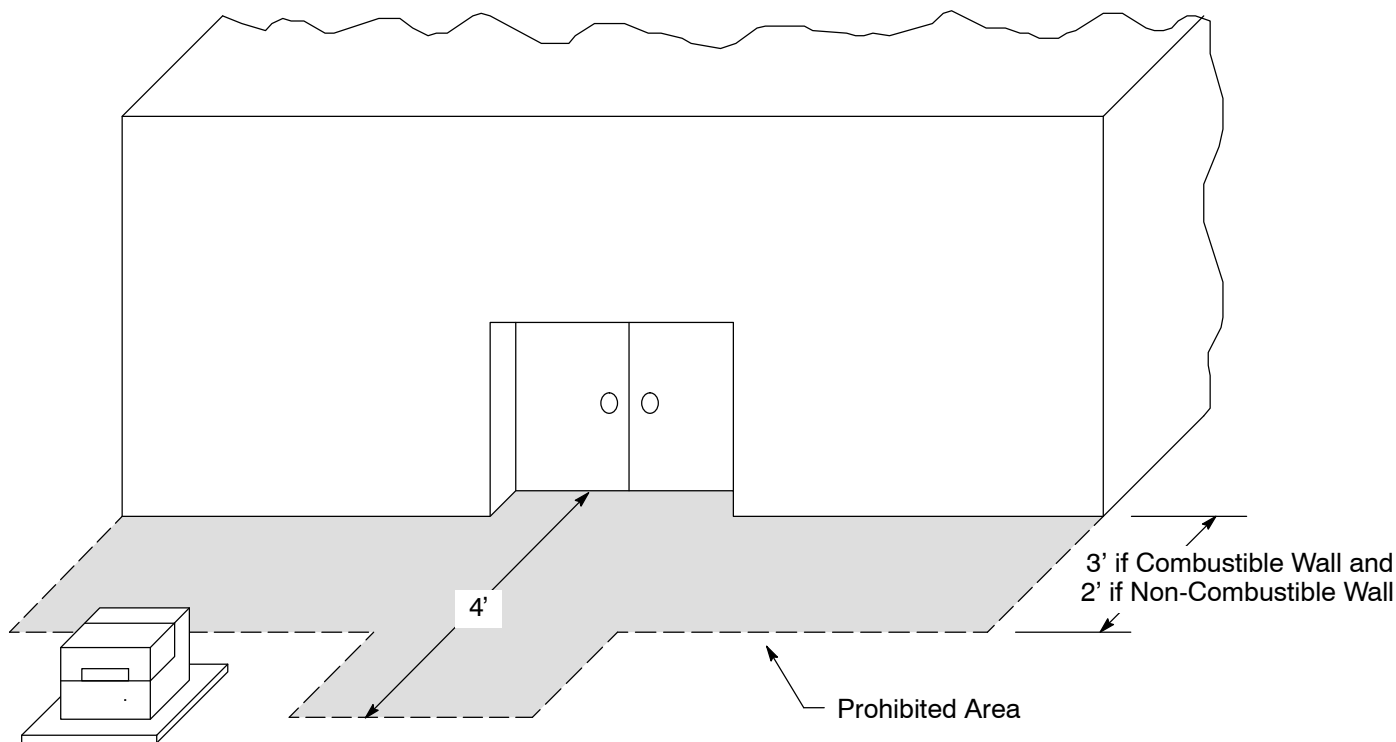

Figure 2
1. Clearances from building surfaces (see Figure 2 on Page 3): Pad-mounted equipment shall have the following clearances (based on [G.O. 128, Rule 34.3 \[D\]](#)):
2. Doorway clearance (see Figure 2 on Page 3): Pad-mounted equipment shall not be placed where it impedes the flow of traffic through a doorway. In general, 4 feet of doorway clearance is sufficient (based on the Uniform Building Code).